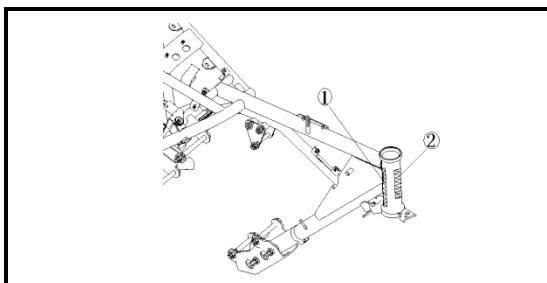
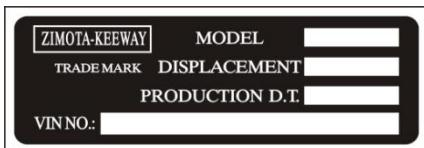

Figure 1-1
Figure 1-2
1. Frame number ① labeled as: *LBBK6910?????????*, as shown in Figure 1-1.
2. Frame nameplate is riveted at frame Position ②, as shown in Figure 1-1. Words on the nameplate are as described in Figure 1-2.